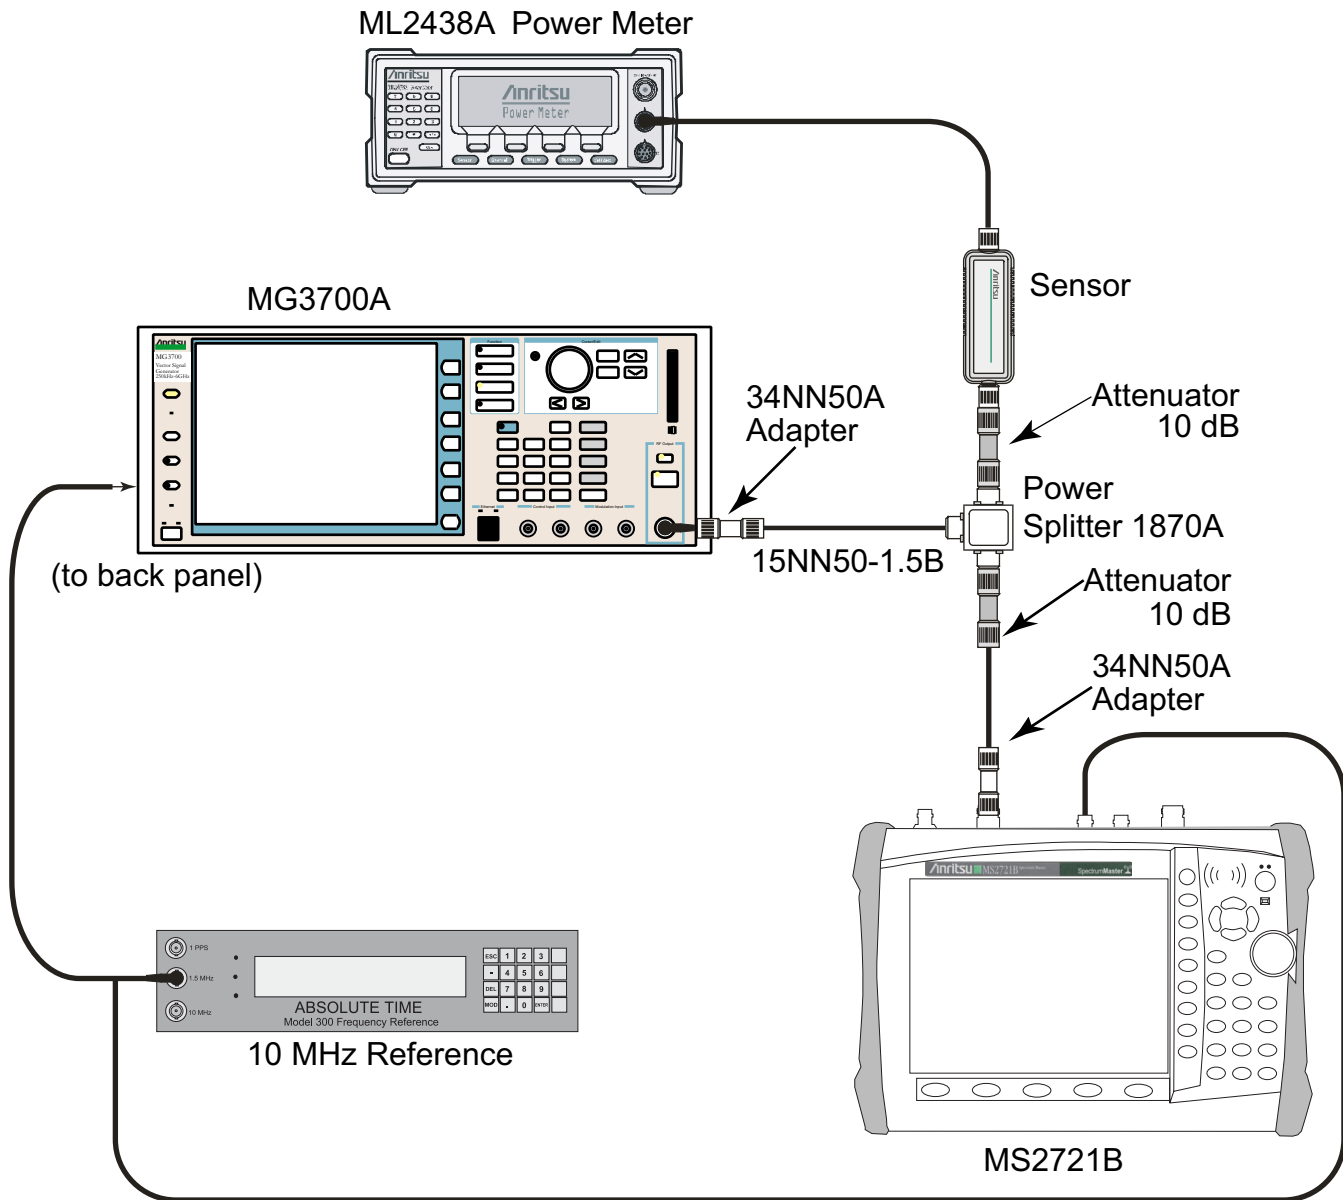

Figure 3-16. WCDMA Occupied Bandwidth Test Setup
3. Connect the MG3700A, splitter, attenuator, power meter, and sensor as shown in Figure 3-16.
4. Press the **On/Off** key to turn on the MS2721B and wait until the measurement display appears, then press the **Shift** key and press the **Mode** (9) key to activate the mode selection menu.
6. Press the **Shift** key, the **Preset** (1) key, and then the Preset soft key.
4. Press the **On/Off** key to turn on the MS2721B and wait until the measurement display appears. Press the **Shift** key and then press the **Mode** (9) key to activate the mode selection menu.
3. Connect the MG3700A, splitter, attenuator, power meter, and sensor according to Figure 3-16 on page 3-52.
4. Press the **On/Off** key to turn on the MS2721B and wait until the measurement display appears. Then press the **Shift** key and press the **Mode** (9) key to activate the mode selection menu.
6. Press the **Shift** key, the **Preset** (1) key, and then the **Preset** soft key.